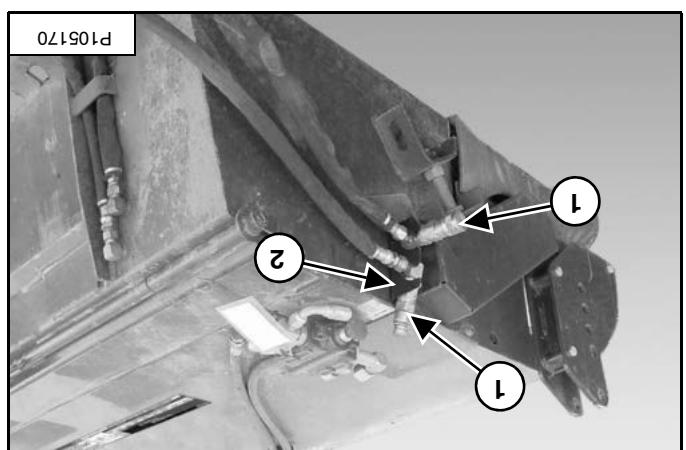

Figure 83
When the sweeper is not connected to the loader, VersaHANDLER, install the hoses (item 1) into the hose hanger bracket (item 2) [Figure 83].